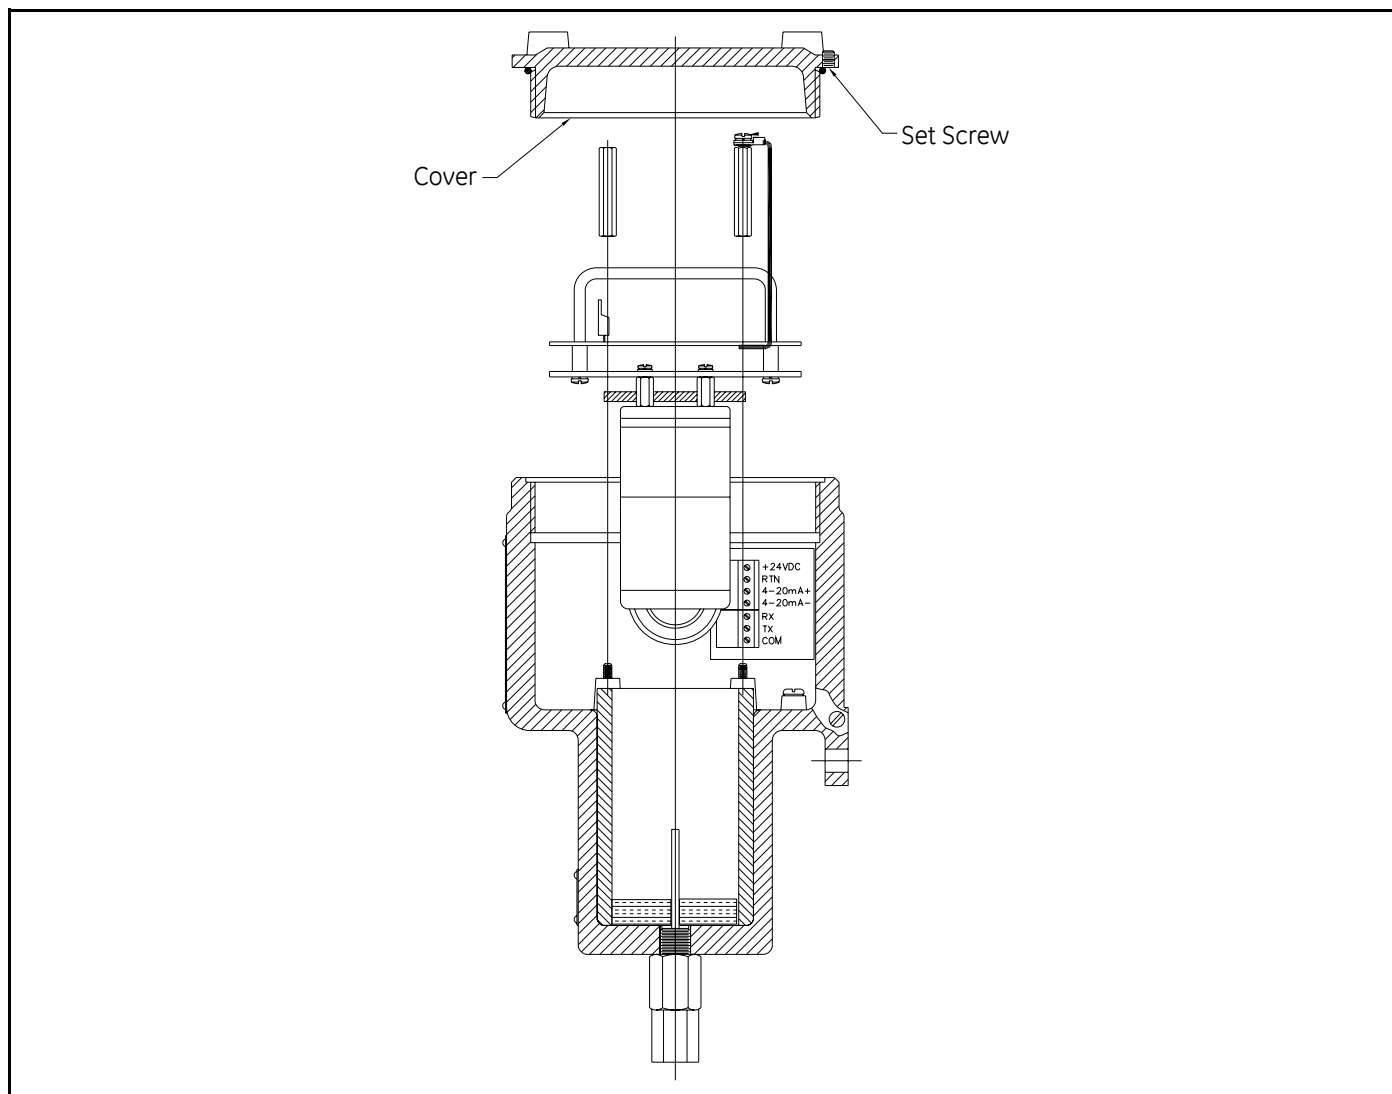

Figure 53: Transmitter Cover and Set Screw
2. Loosen the set screw that locks the XMTC cover in place, and unscrew the cover (see *Figure 53* below).